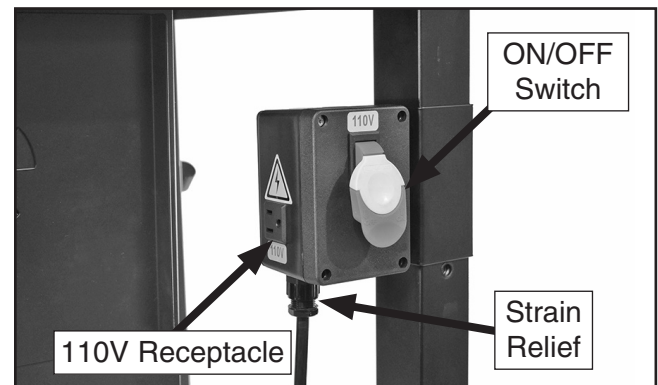

Figure 39. Location of ON/OFF switch and 110V receptacle.
The Model T28780/T28781 includes an electrical box with a 110V receptacle and an ON/OFF paddle switch (see **Figure 39**). The router power cord can be plugged directly into the electrical box, and the power cord on the electrical box can be plugged into a 110V outlet. This allows you to start and stop your router without having to reach into the dust box for the router ON/OFF switch.
2. Loosen (2) 10-24 x $\frac{3}{8}$ " Phillips head screws securing side door on dust box, and feed router power cord through opening.
5. Install $\frac{1}{2}$ " strain relief (see **Figure 39**) on router power cord where it emerges from the dust box side panel and secure by retightening screws.